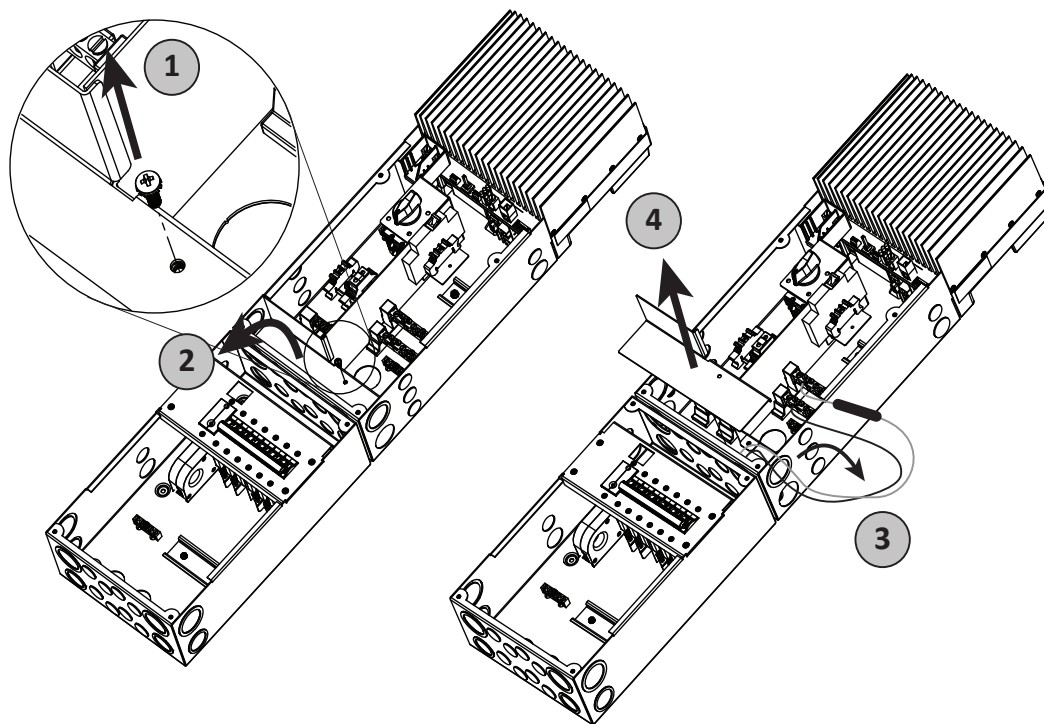

Figure 3-5. Remove the Wiring Divider.
The wiring divider separates the solar high voltage wiring from the low voltage battery and communication circuits - see Figure 3-5. The divider is secured with only one screw.
2. Lift and tilt the divider towards the bottom of the unit as shown in Figure 3-5.